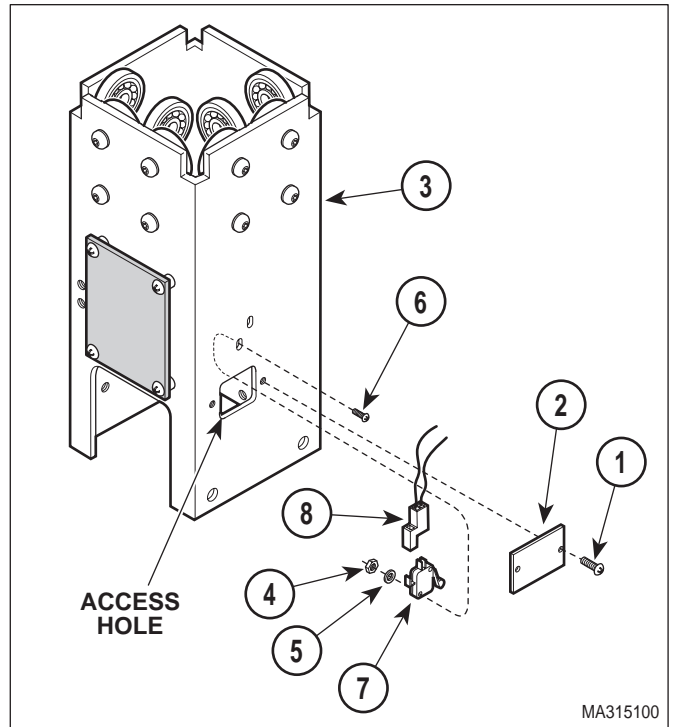

Figure 4-22. Base Down Limit Switch Removal / Installation / Adjustment
- (5) Remove two screws (1, Figure 4-22) and switch cover (2) from elevation column (3).